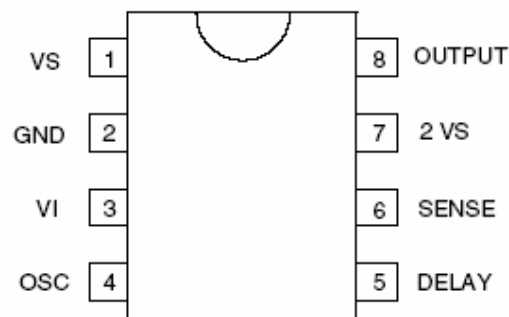

Figure 1.
- Application circuit according to Figure 1 or Figure 4